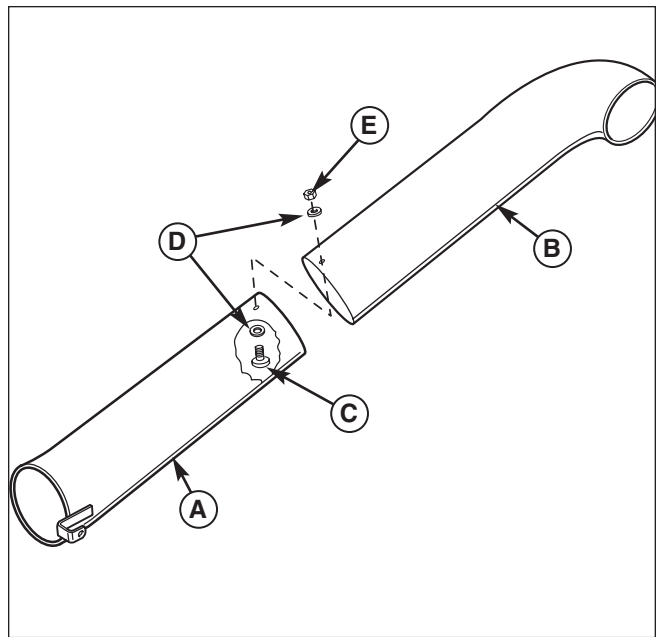

Figure 26. Install Tubes
- Slide upper tube (B, Figure 26) over lower tube (A) secure with #10-24 x 3/4 screw (C), washers (D) and #10-24 locknut (E).